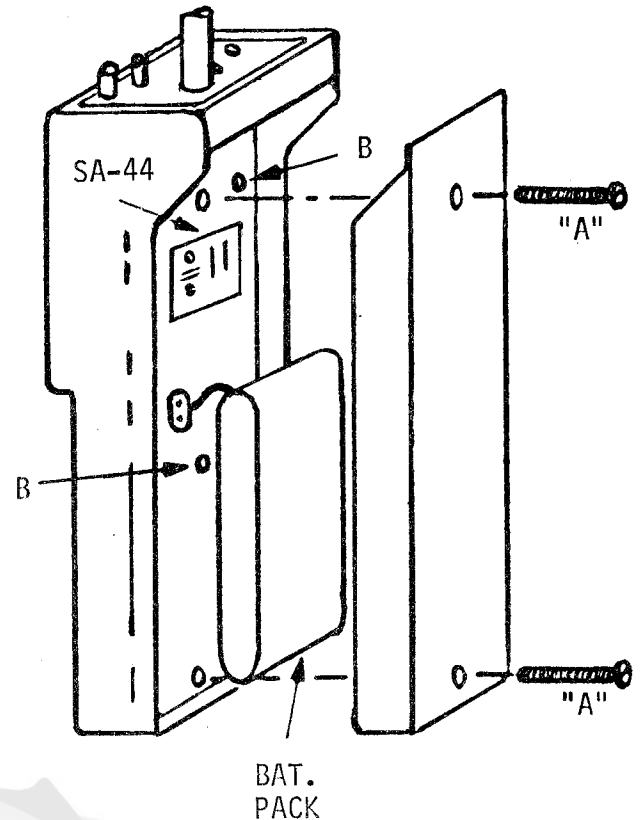

Figure 4-2. Disassembly
The transceiver covers are easily removed; refer to Figure 4-2 and proceed as follows: (DO NOT BUMP OR MOVE TRANSMIT CRYSTAL TRIMMERS, on bottom-rear of PC board).
2. Remove two #4-40 x 1" pan-head machine screws which secure back cover to transceiver (Fig. 4-2, item "A").
4. Remove two #4-40 pan-head machine screws (Figure 4-2, item "B") which secure PC board to FRONT cover.
2. Rotate speaker so that its two solder terminals face in the general direction of the Charging Jack. Be sure speaker terminals DO NOT short against resistor leads or coils; then, check routing of speaker wires to insure they will not be pinched when mounting screws "B" or "A" (Figure 4-2) are installed.
4. Turn transceiver over on its front side and be sure PC board is fully seated in FRONT cover. Now install two 4-40 machine screws (Figure 4-2, item "B").